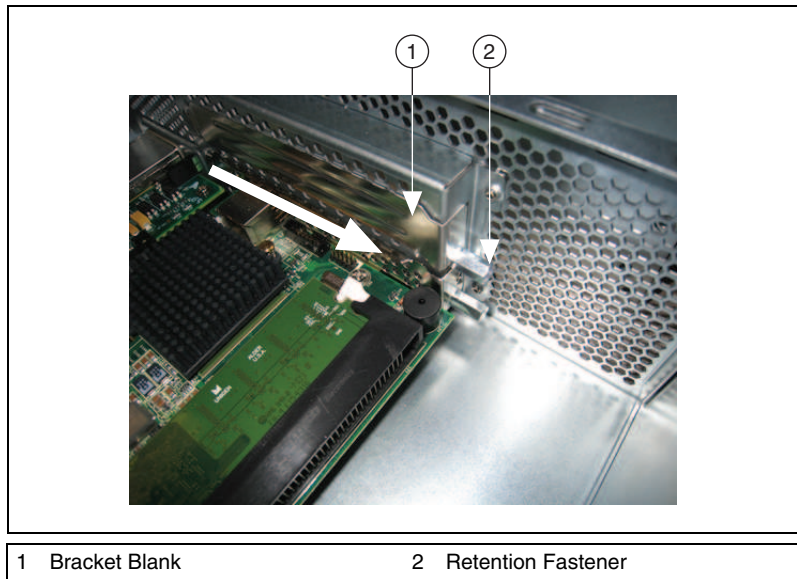

Figure 3. Removing the Bracket Blank
- Remove the bracket blank from the chassis by unscrewing the retention fastener and sliding the bracket out in the direction shown in Figure 3. You may need a 6 mm wrench or small adjustable crescent wrench (not included in the kit) to loosen the fastener.